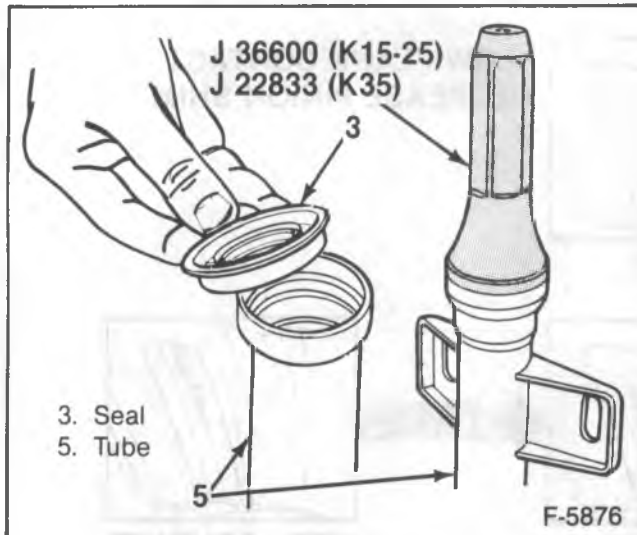

Figure 36—Installing the Axle Tube Seal
1. Bearing (4). Use J 36609. Drive into place with a hammer.
2. Seal (3). Use J 36600 (K15-25 models) or J 22833 (K35 models) (figure 36).
3. Shaft (1) with deflector (2) to the axle tube.
4. Washer (7). Align the tabs with the slots in the tube.